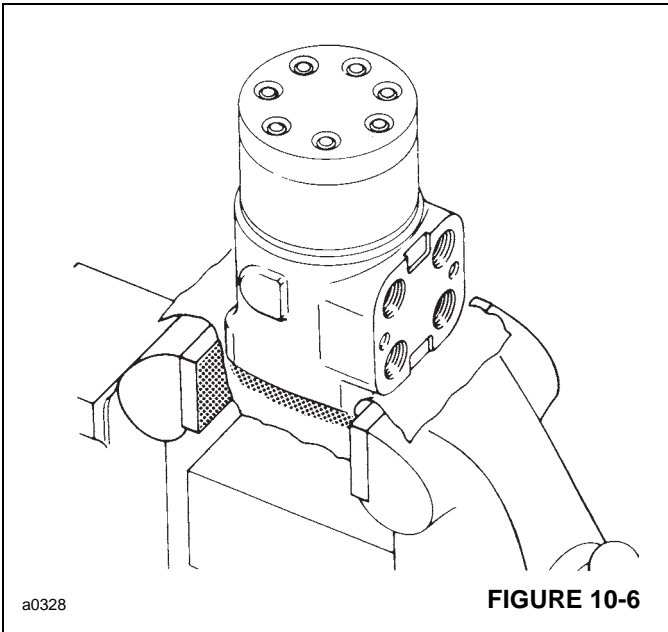

FIGURE 10-6
- Clamp the unit in a vise, meter end up. Clamp lightly on the edges of the mounting area (Figure 10-6). Use protective material on the vise jaws. Housing distortion could result if the vise jaws are overtightened.